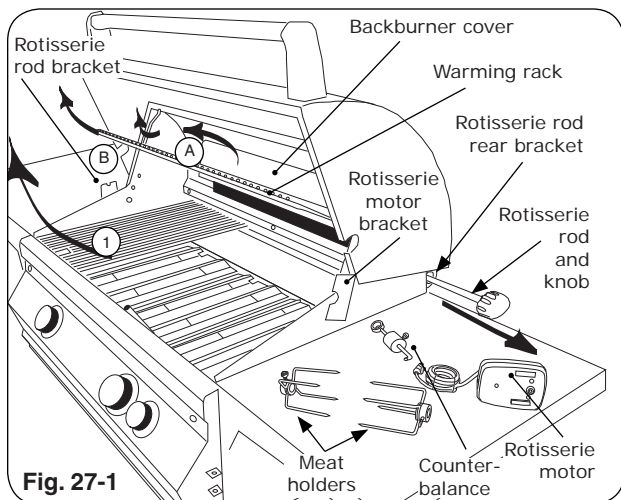
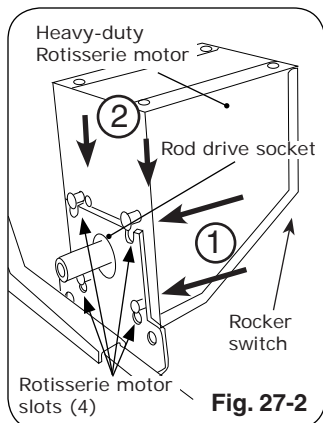
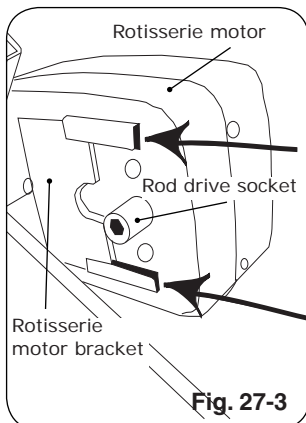

Fig. 27-1
Fig. 27-2
Fig. 27-3
2. Slide rotisserie motor fully onto motor bracket (right side, Fig. 27-1, Fig. 27-2 and Fig. 27-3).
3. Remove rotisserie rod from rear bracket (Fig. 27-1) and attach knob if necessary.